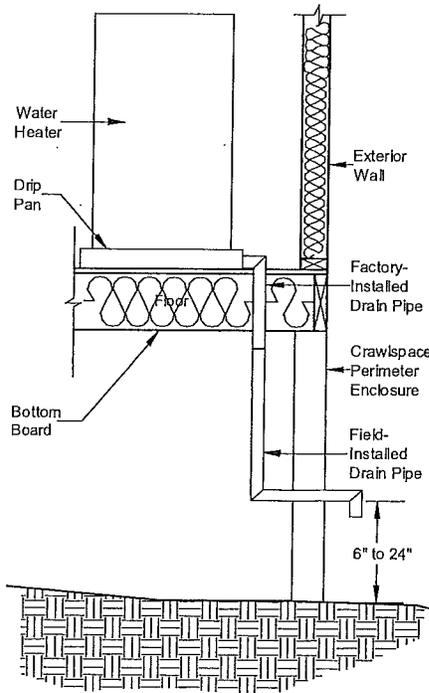

Figure 80. Water heater drip pan and drain
**Install water heater drip pan drain.** Assure that the drain for the water heater drip pan does not terminate under the home. Using the materials provided and the accompanying instructions run a drain line from the water heater drip pan through the wall or floor to the exterior of the crawl space. Terminate the line between six and 24 inches above grade. (Figure 80). Make the termination point rodent proof.